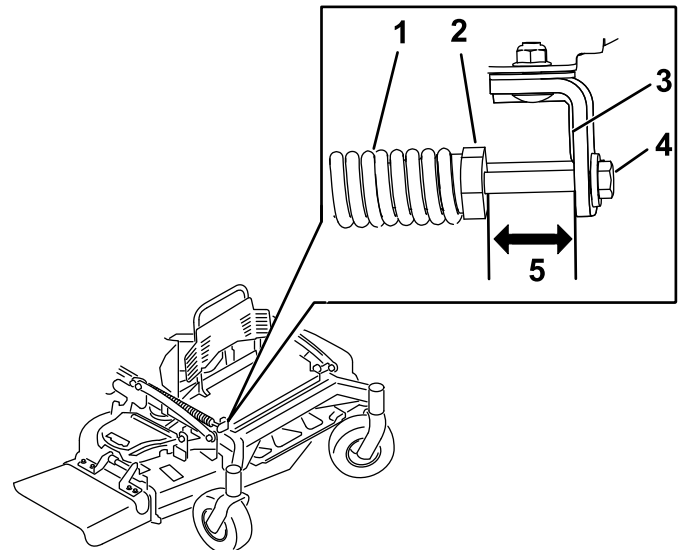

Figure 84
2. Check the distance between the spring nut and the rear side of the welded mount bracket (Figure 84).
3. Ensure that the length is between 64 to 89 mm (2.5 to 3.5 inches) as shown in Figure 84.
4. If needed, adjust the distance by adjusting the bolt on the front of the mount bracket (Figure 84).